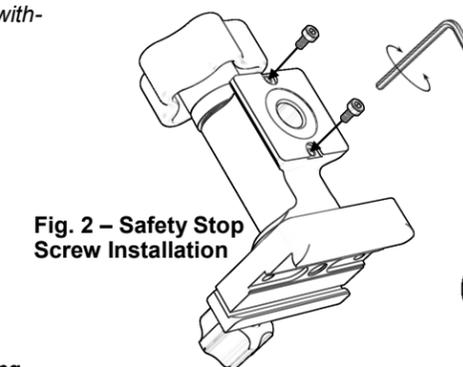

Fig. 2 - Safety Stop Screw Installation
Step 1: Install the safety stop screw See Fig. 2. (Also see clamp compatibility warnings in included safety stop screw kit)